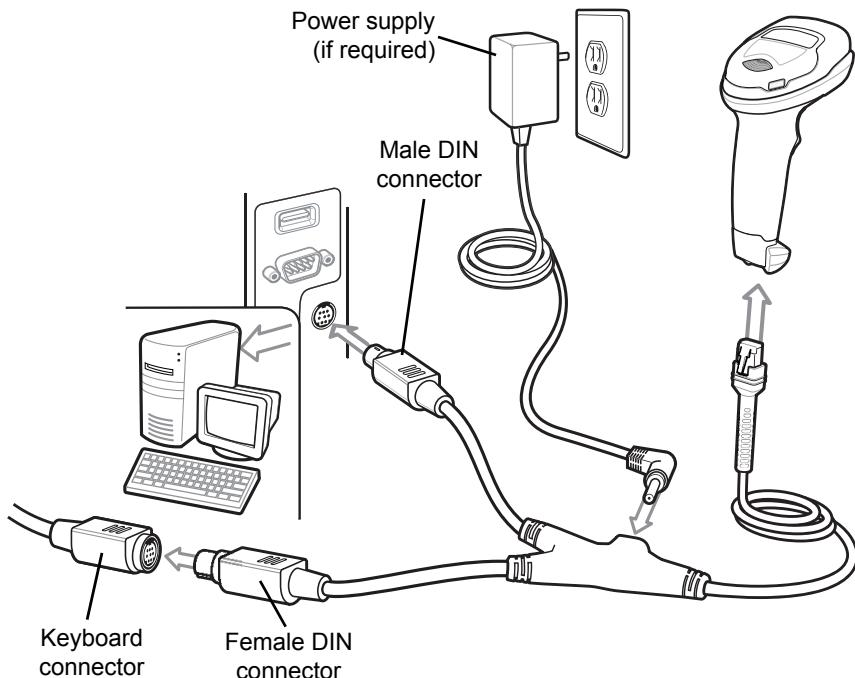

Figure 10-1 Keyboard Wedge Connection with Y-cable
**NOTE** Interface cables vary depending on configuration. The connectors illustrated in Figure 10-1 are examples only. The connectors may be different than those illustrated, but the steps to connect the digital scanner are the same.